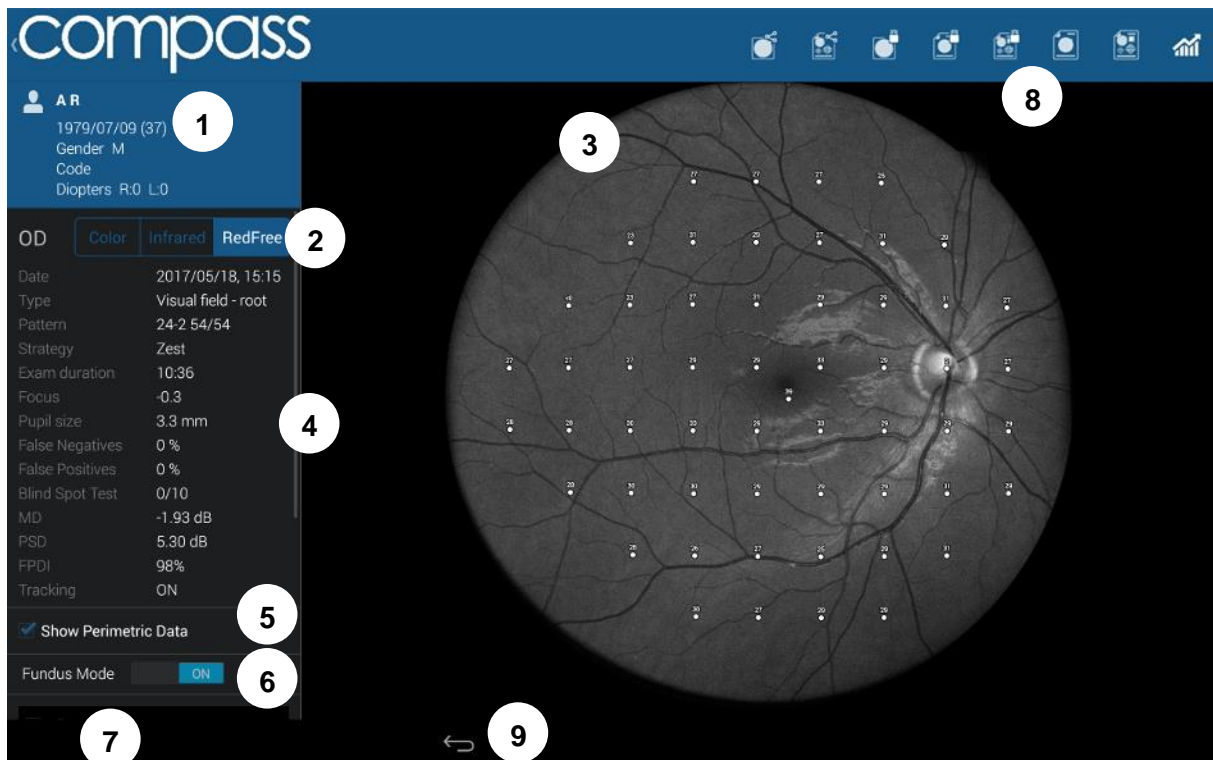

Fig. 35 – Exam review screen, red-free display modality
6. open Exam Review screen (see Fig. 35);
The **Exam Review** screen (Fig. 35) provides the following information and functions: